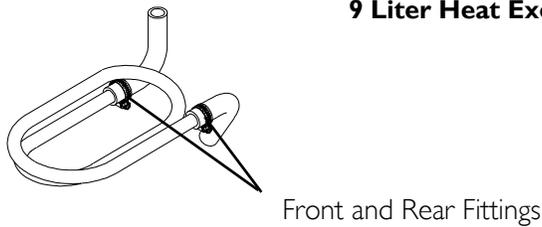

FIGURE 23.2 Leak Test
NOTE: For this procedure, refer to and FIGURE 23.1 on page 94 and FIGURE 23.2 on page 95.
- C. P.E. valve hose connections on top of sieve beds (FIGURE 23.2).
- D. Hose fittings at product tank cap and check valves (FIGURE 23.2).
- E. The front and rear fittings on heat exchanger (FIGURE 23.2).